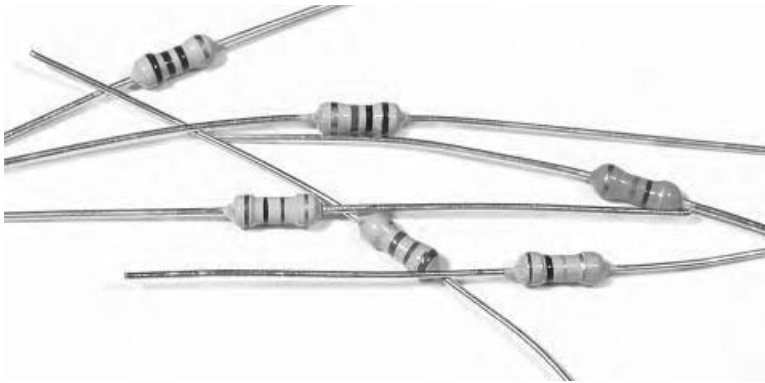

Figure 12.1 Some resistors.
- Resistors: little cylinders encircled by colorful 1960s retro stripes (see figure 12.1).